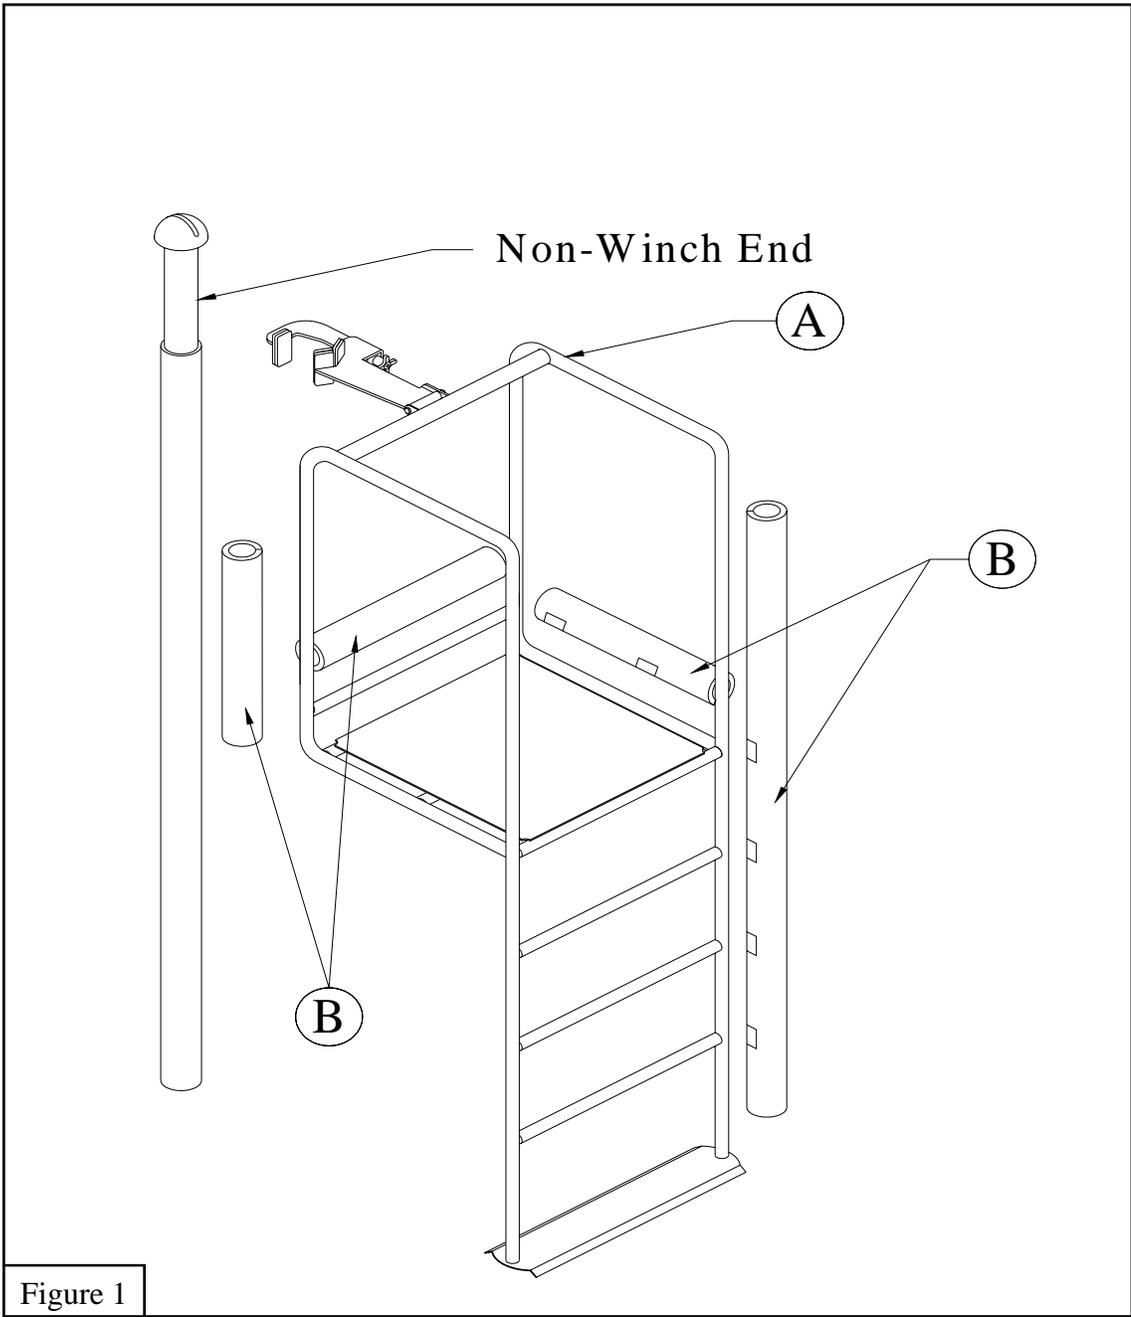

Figure 1
2. Install *Safety Padding Set* (B) on *Officials Stand* (A) as shown. See Figure 1.
3. Pull release pin on clamp arm and rotate from storage position to position shown in figure 1 and 2. Make sure the release pin is locked into position, the clamp arm is designed to float to allow for possible flex in the standards.
4. Turn clamp knob counter clockwise until the opening allows you to attach *Official's Stand* (A) to the top of the non-winch end volleyball post. Make sure the *Officials Stand* (A) is level. Turn the clamp knob hand tight clockwise until the *Officials Stand* (A) is securely clamped to the volleyball post.